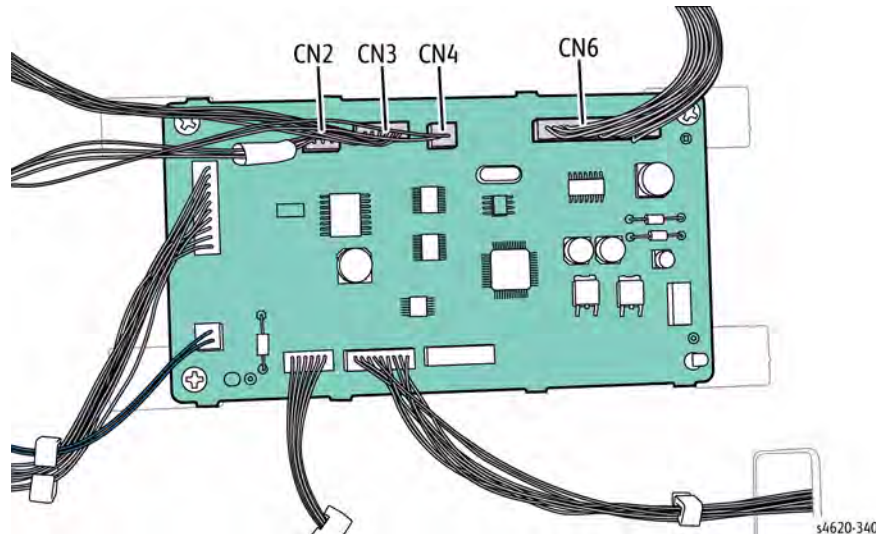

Figure 1 Disconnect the harnesses from the HCF Control Board
6. Disconnect CN2, CN3, CN4, and CN6 from the HCF Control Board, Figure 1.